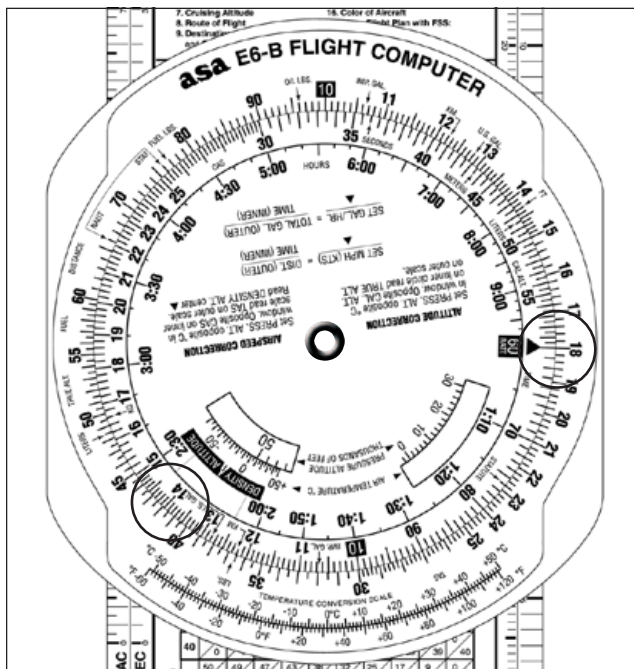

Figure 9-15. Determining total fuel consumed on the E6-B
2. Over 2 hour 20 minute (inner scale), read 42 gallons (outer scale). See Figure 9-15.